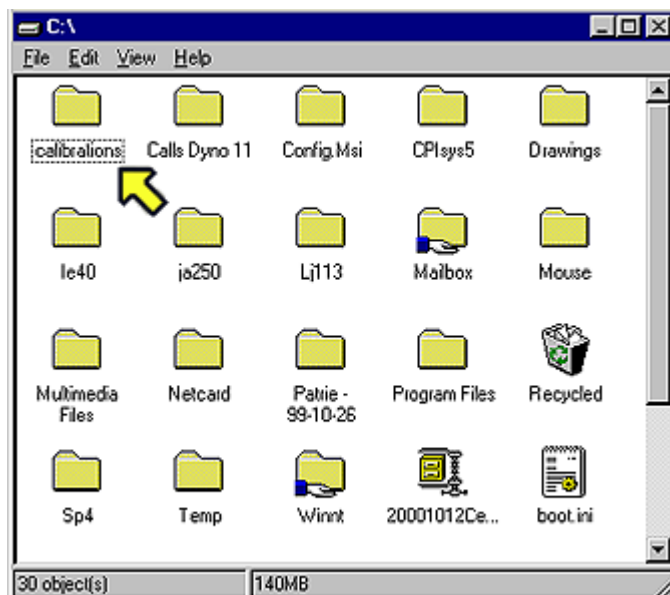

Figure 14
- 118 From the "Micron (C)" screen, select the "Calibrations" icon. See the arrow in Figure 14.